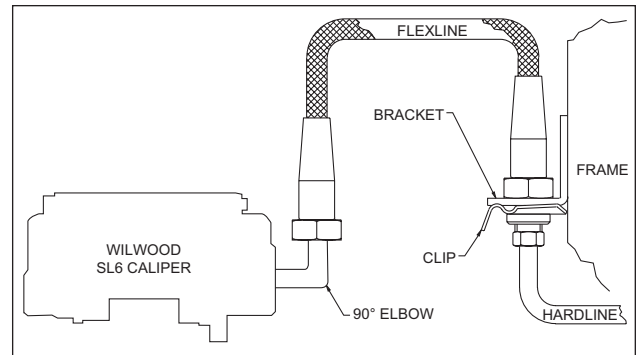

Figure 4. Brake Line Diagram
- Install Wilwood's optional stainless steel braided flexline hose kit, part number 220-8176 (NOT included in kit), see Figure 4. **NOTE:** The caliper inlet hole has a 1/8-27 NPT thread. A steel 90° elbow fitting should be installed in the caliper. **THE ORIGINAL EQUIPMENT PRODUCTION RUBBER BRAKE HOSES WILL NOT ADAPT TO WILWOOD CALIPERS AND ARE NOT RECOMMENDED.**